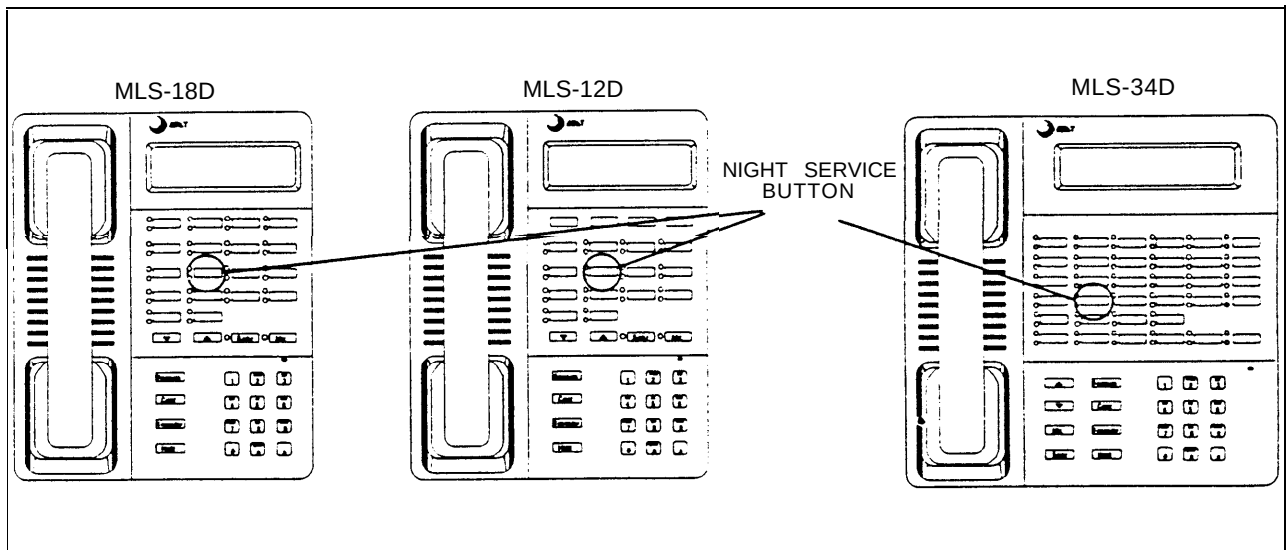

Figure 6-1 Turning Night Bell Service On/Off
4. Use the PARTNER Plus/II *Night Service Button* (#503) procedure to activate the Night Service feature (if not already done) see Figure 6-1.